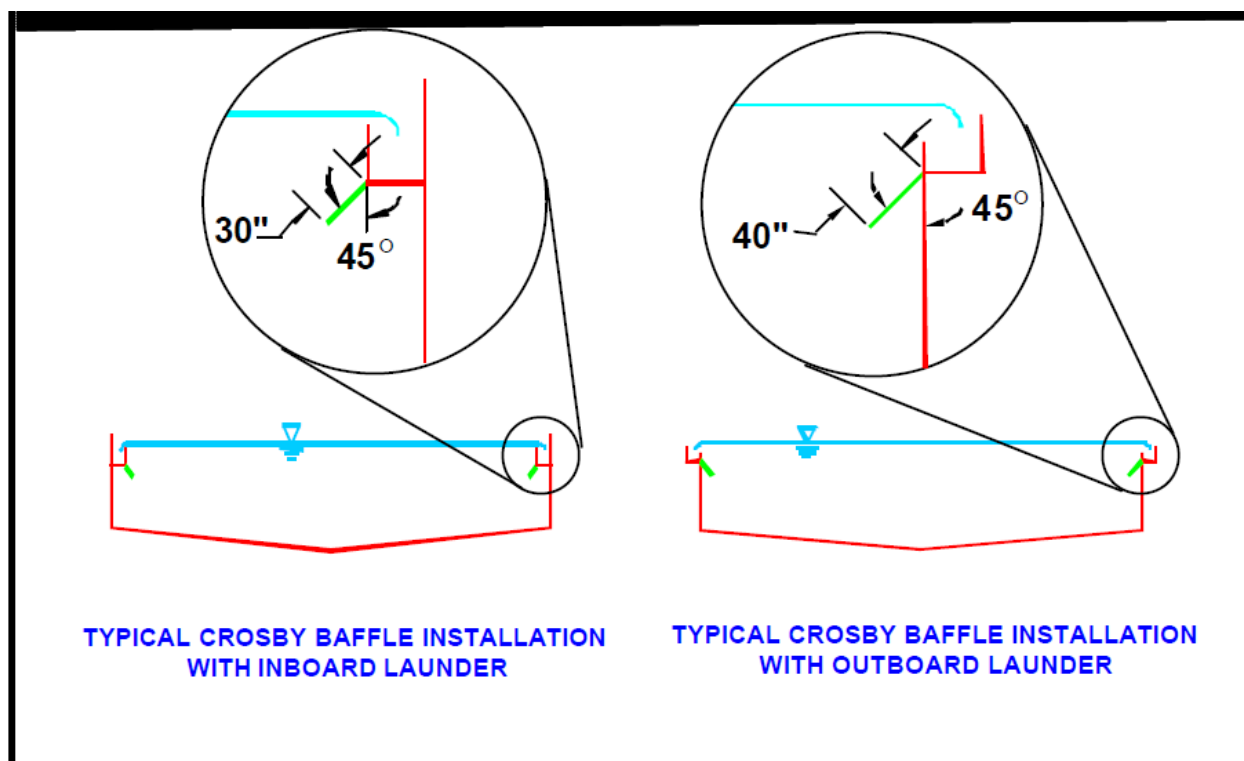

Figure 3.9 Current density baffle installations⁹
- A density current baffle may be installed to ensure currents are minimized (Figures 3.9 and 3.10) enhancing the performance of the clarifier. The baffle eliminates the effect created by density currents flowing up the clarifier wall. Density currents will prevent solids from settling properly and may allow solids to flow directly into the effluent trough.